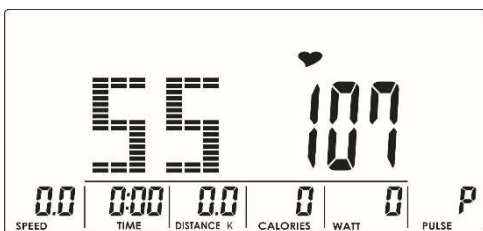
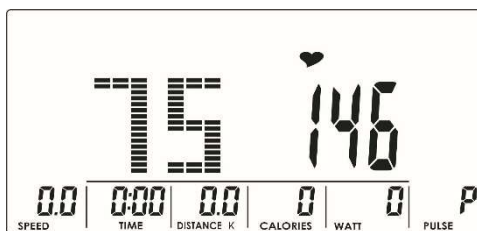
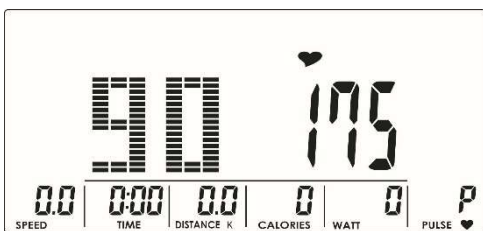
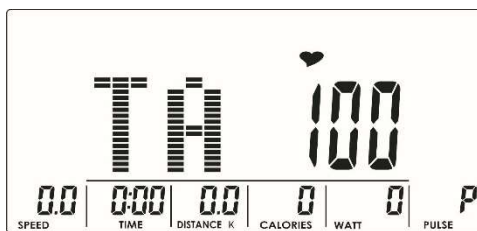

Fig. 011
Fig. 012
Fig. 013
Fig. 014
2. Use the UP and DOWN buttons to set the heart rate value: 55% (Fig. 011), 75% (Fig. 012), 90% (Fig. 013), or TAG (TARGET H.R., 100% by default) (Fig. 014) to set a custom value.